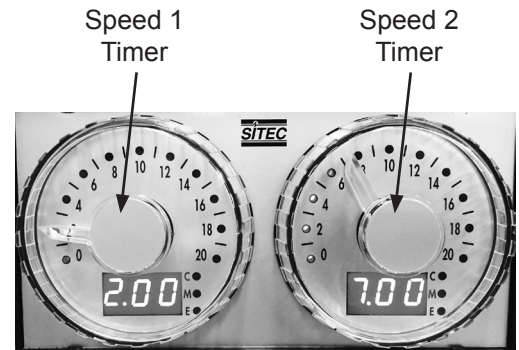

Figure 9-1.
5. Set the time on the speed 1 and speed 2 timers. See Figure 9-1.